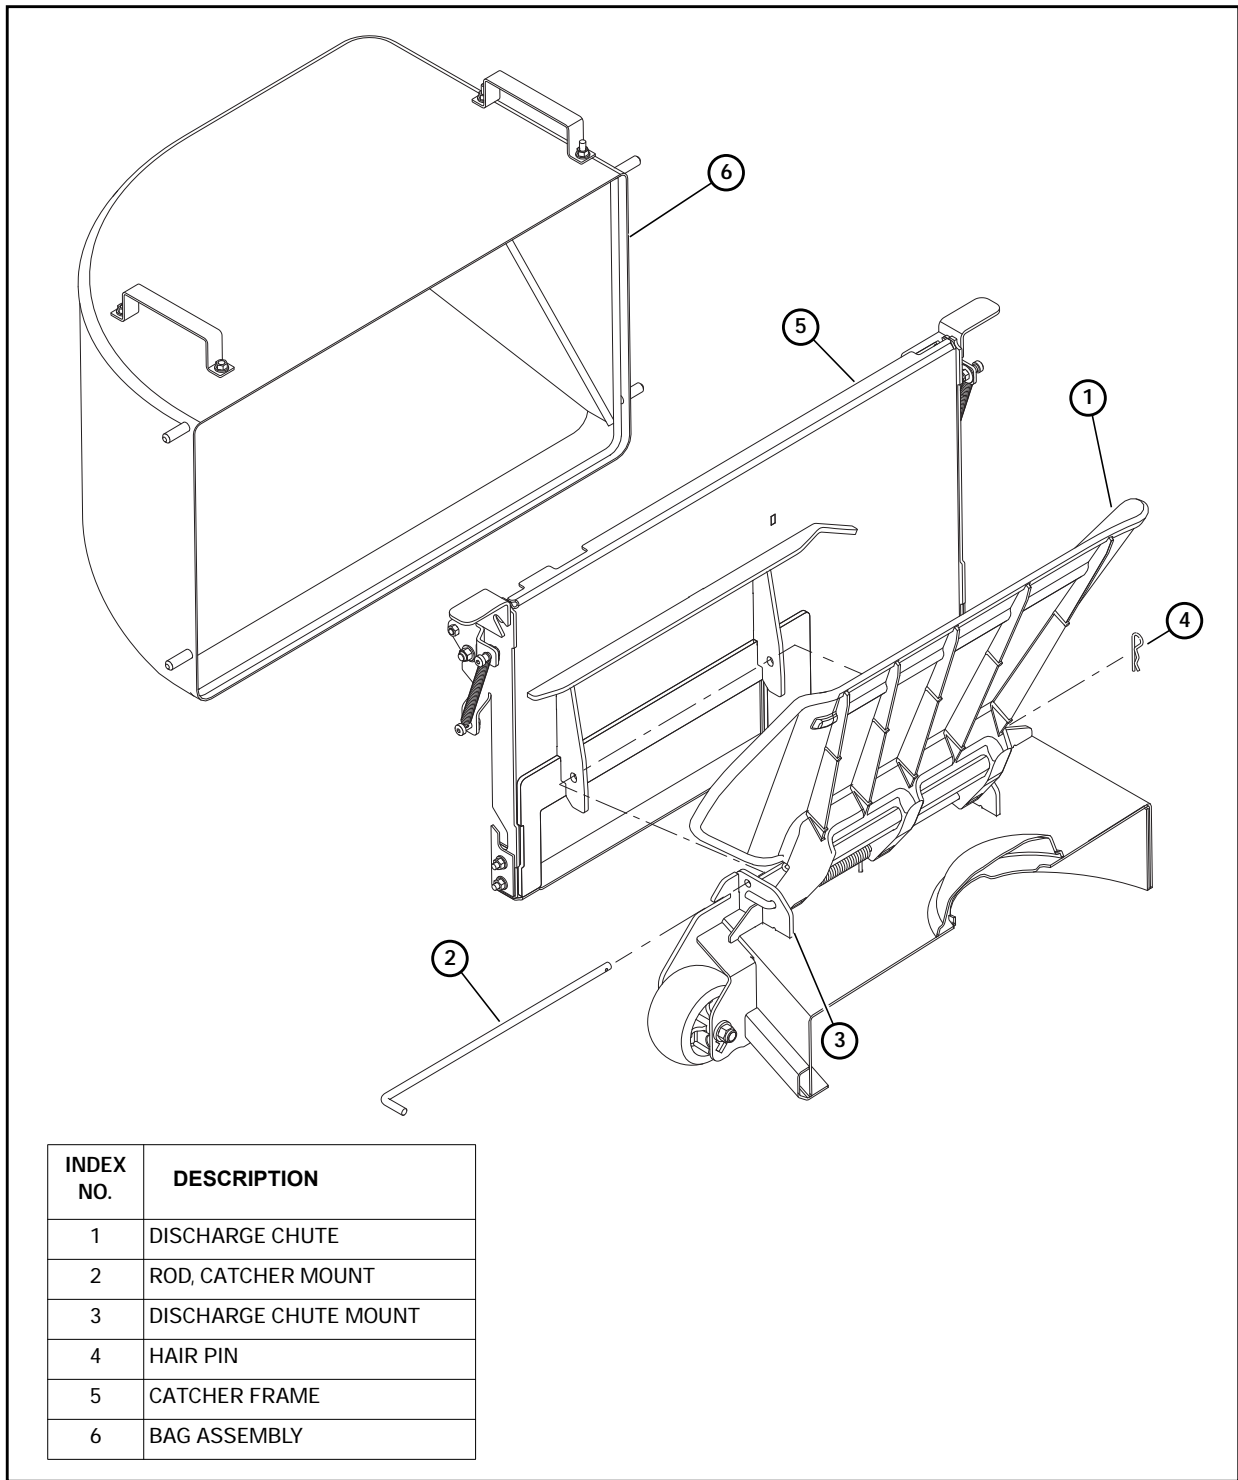

Figure 3-1
1. Hold the discharge chute in the up position. Position the catcher frame against the deck opening. Insert the catcher mount rod through the holes in the discharge chute mount and the catcher frame. Secure the rod in place with the hair pin. Figure 3-1